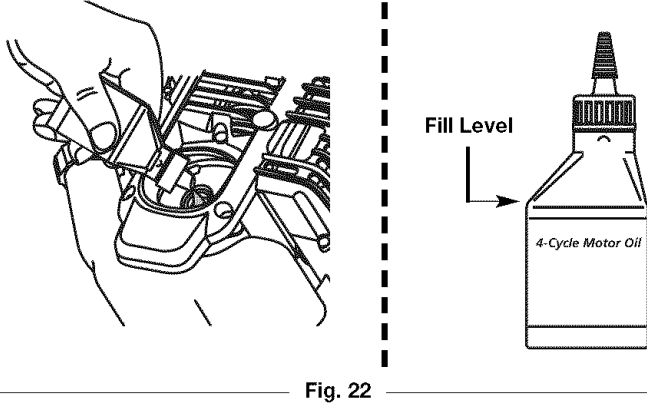

Fig. 22
**NOTE:** Use the bottle and spout saved from initial use to measure the correct amount of oil. The top of the label on the bottle measures approximately 3.04 ounces (90 ml) (Fig. 22). Check the level. See Checking the Oil Level. If the level is low, add a small amount of oil and recheck. Do not overfill (Fig. 22).